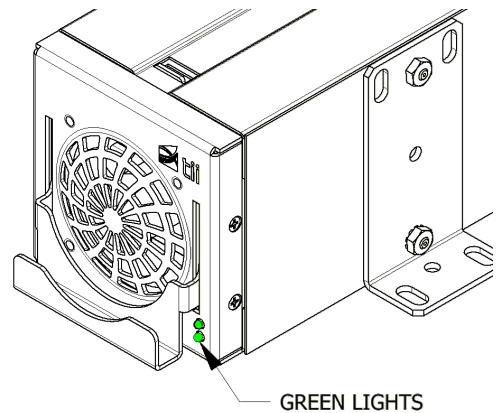

Figure 7
7. When the Up converter is fully inserted, apply AC power. Both LED lights turn green (Fig. 7). Note the lower light may be blinking.